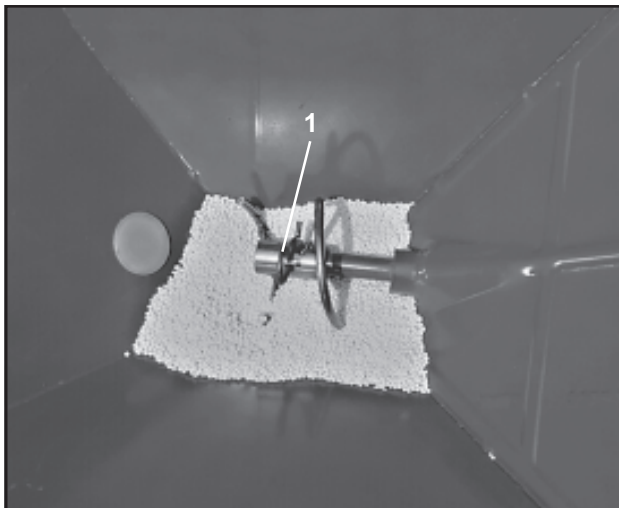

Fig. 9.5
2. Agitator spiral clip pins (Fig. 9.5/1) serve as shear off safety of the agitator shaft.